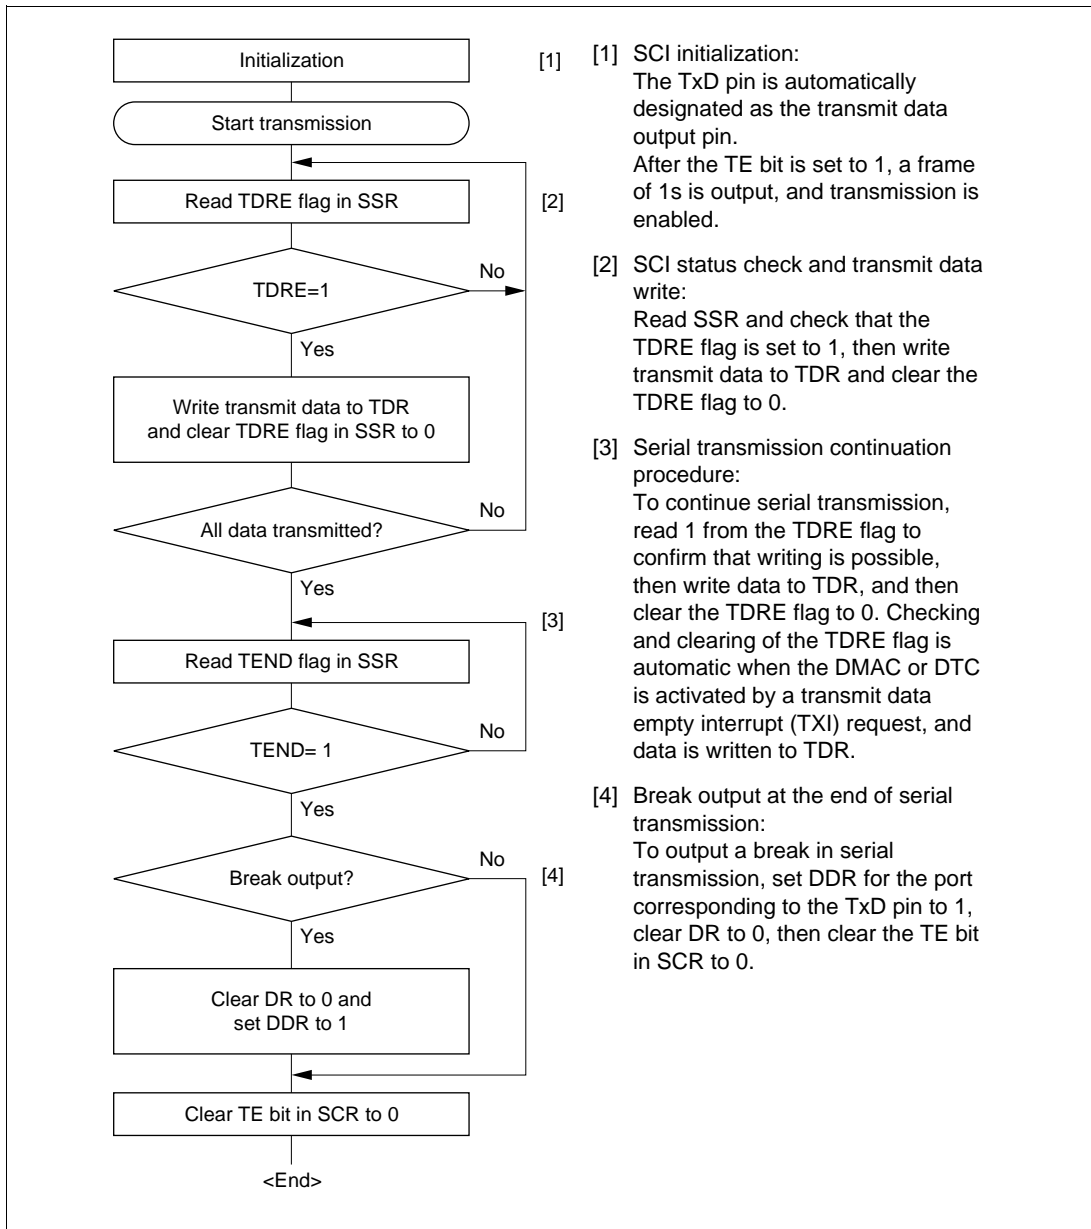

Figure 14-5 Sample Serial Transmission Flowchart
- Figure 14-5 shows a sample flowchart for serial transmission.